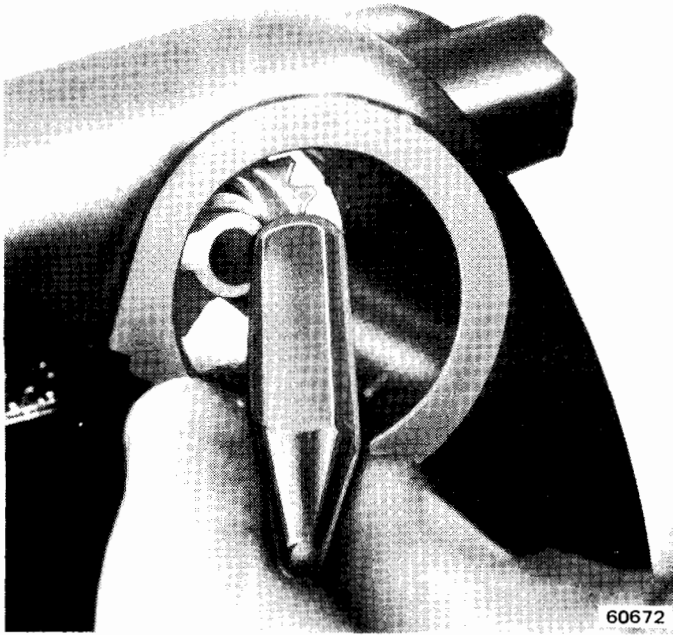

Fig. 11-18 Installing Sector
- (1) Install sector on sector shaft. Install sector through lock cylinder hole in housing (fig. 11-18). Use blunt tool to press sector onto shaft. Sector should turn freely after installation.